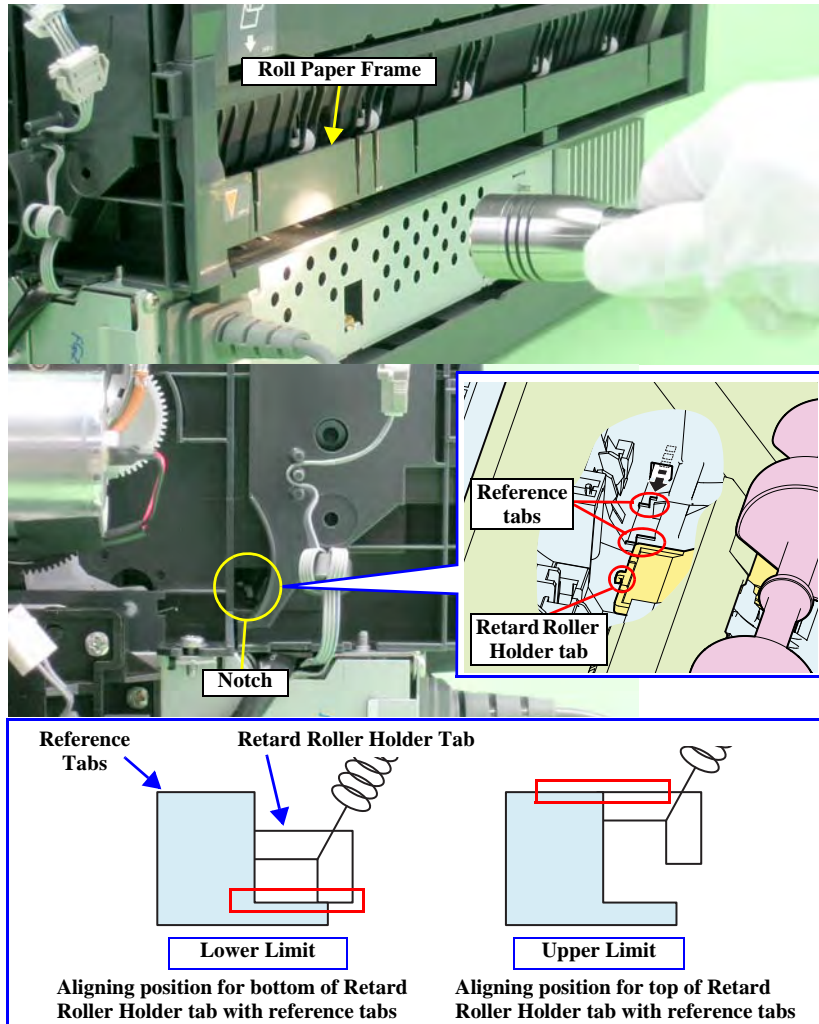

Figure 5-34. Aligning the Position of the Guide Roller LD (0 Digit Side)
- Light the printer's inside through a gap between the Roll Paper Frame and the ASF Assy with a penlight, and look the tab on the Retard Roller Holder at the back of the two reference tabs on the ASF Assy through the notch. After making sure that the two reference tabs are aligned when viewed edge-on, adjust the position of the Retard Roller Holder Tab by pressing the Guide Roller LD (0 digit side) so that it is placed within the range as shown in the simplified diagram in Figure 5-34.